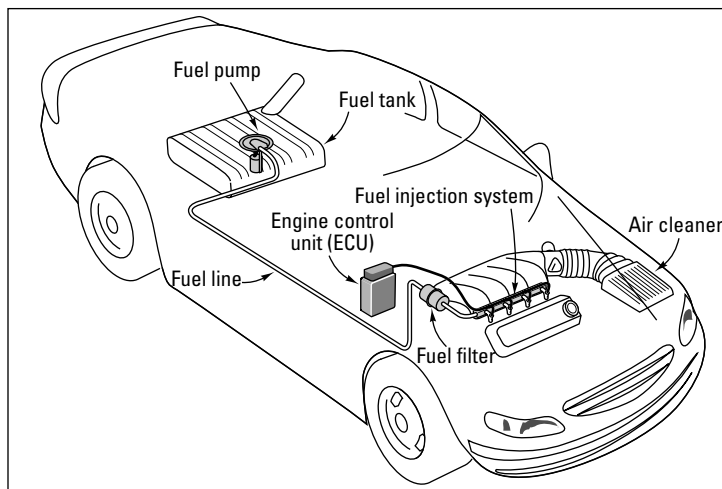

Figure 4-3: The fuel system.
4. Now the **fuel system** comes into play (see Figure 4-3): If you drive a vehicle with an **internal combustion engine** (ICE), whether your vehicle is more than 20 years old or just 20 days old, has **fuel-injection** or a **carburetor**, it probably has the same basic parts in its fuel system with one exception: On modern vehicles, the fuel system — along with most other systems — is controlled by the **ECU**. Chapter 7 explores the fuel system in detail, and Chapter 8 tells you how to keep it in tune.